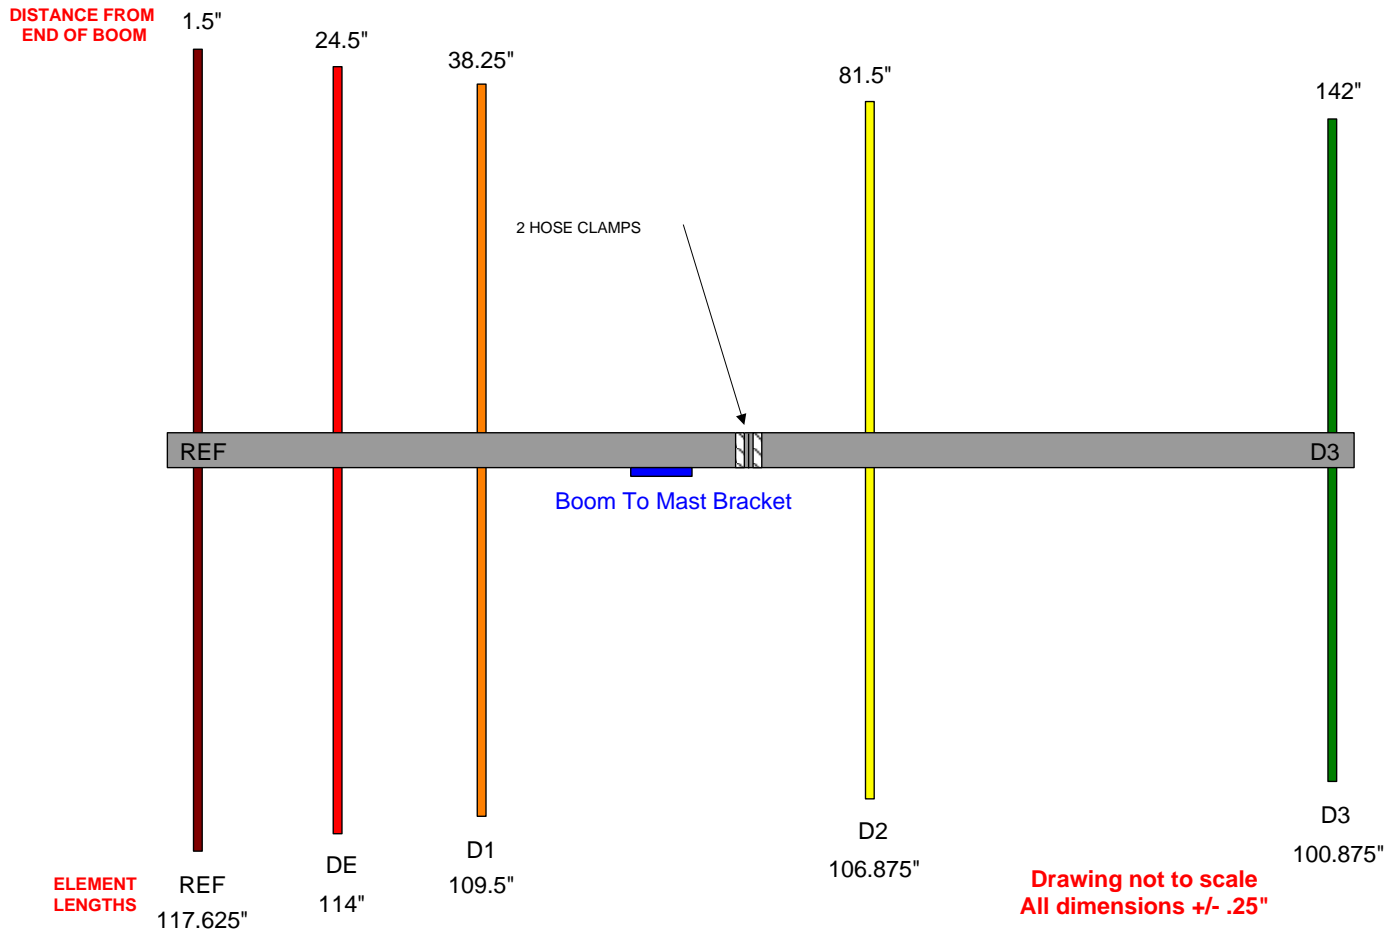

Figure 3
2. Using a permanent marker, refer to Figure 3 and mark the boom where each element mounts. All measurements are referenced from the reflector end of the boom.
6. The driven element (DE) mounts the same way; however, the connector bracket sits between the element and the element to boom saddle.